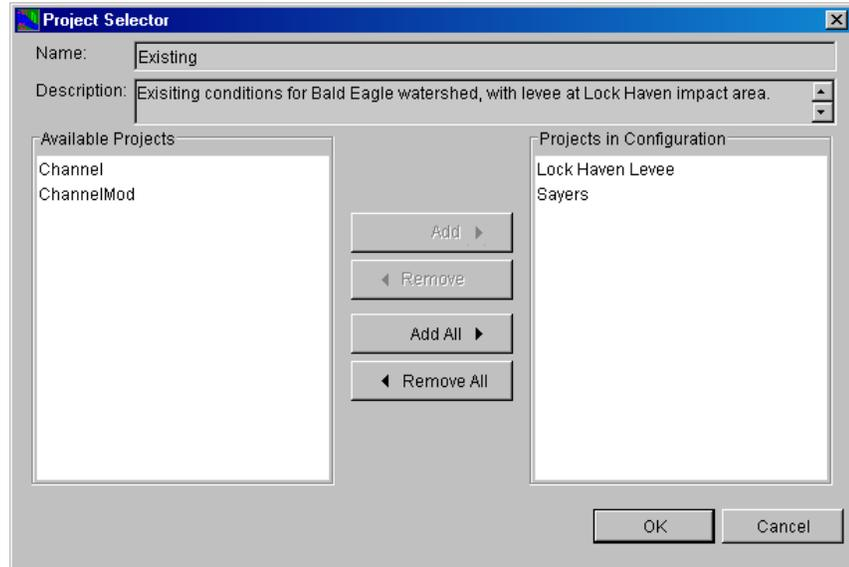

Figure 7.5 Project Selector Dialog Box
- The **Project Selector** dialog box (Figure 7.5) will open. The Project Selector displays the Configuration name and description for reference. The left pane contains all **Available Projects** not already associated with the Configuration (in this example, two projects, Channel and ChannelMod). The **Projects in Configuration** pane on the right lists all Projects currently
1. To add *individual* Projects, click on the Project's name in the **Available Projects** list (Figure 7.5) to select it, and then click the **Add** button to move it to the **Projects in Configuration** list.
1. To remove *individual* Projects, click on the Project's name in the **Projects in Configuration** list (Figure 7.5) to select it, and then click the **Remove** button to move it to the **Available Projects** list.